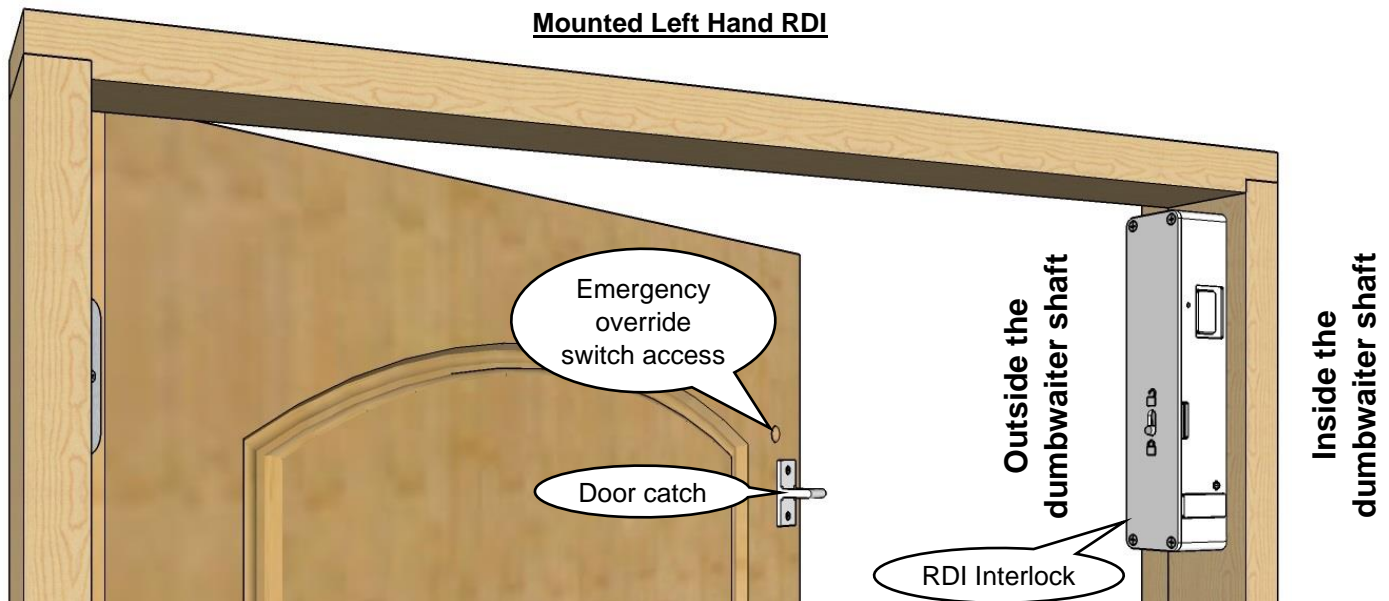

Figure 27
- 1** The RDI door interlocks must be mounted vertically and opposite the hinges. **(see Page 21, Figure 27)**